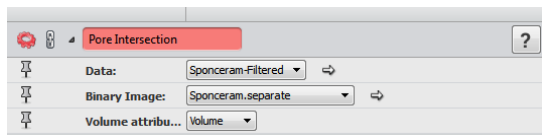

Figure 20.25: Parameters of the Pore Intersection Module
8. Compute the intersection percentage of the pores for the filtered network. Create a *Pore Intersection* module on the last result and connect the result of the *Separate Objects* module to the Binary Image port. The module will output a new pore network code, including an intersection column that represents the percentage of intersection with the real pore space (see Figures 20.25 and 20.26).